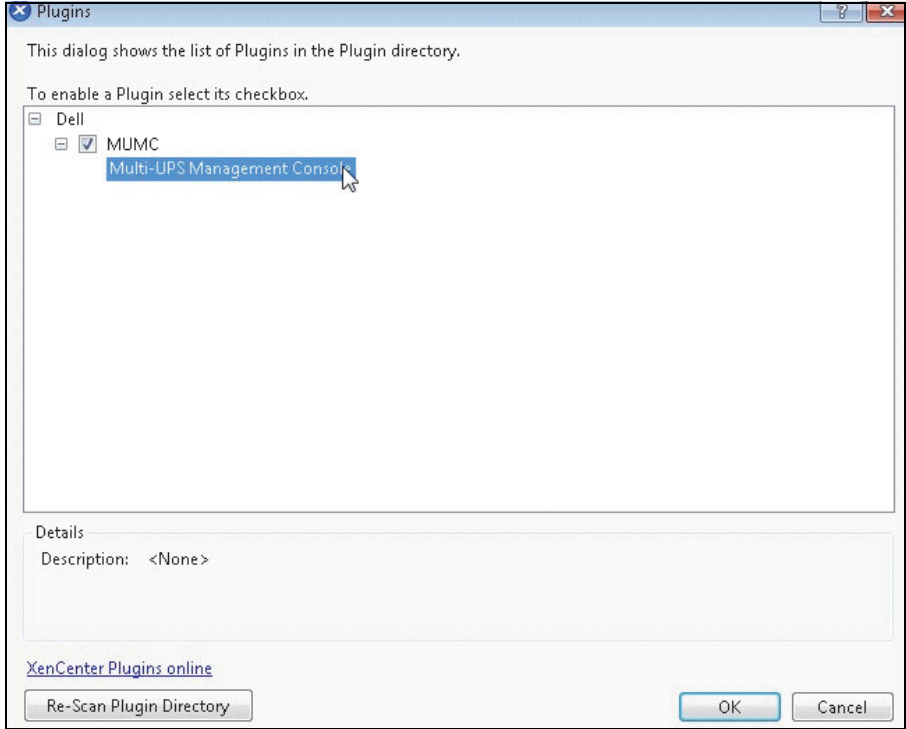

Figure 97. Plugin Directory (Rescan)
- If not, click *Re-scan Plug-in Directory* (see Figure 97).